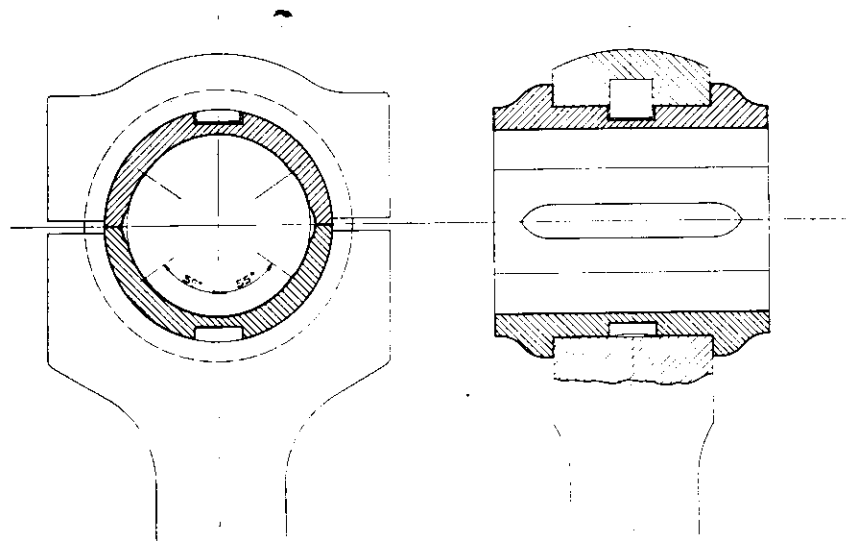

Fig. 13.
The gudgeon pin bearing (36) is made in halves and (in the later constructed engines) so made that when the lower half is worn out, the upper half can be used in its place, the lower half being used for the top part of the bearing. On these engines the guide pin sits fast in the rod. If this is not the case, the bearing should be removed and a new bearing inserted. The top half, however, must not actually make contact with the pin. The lower half should be well scraped out on the sides so that the surface in contact with the pin does not exceed more than about 55° or less on either side of the vertical centre line, see fig. 13. If the lower half is not well scraped out in